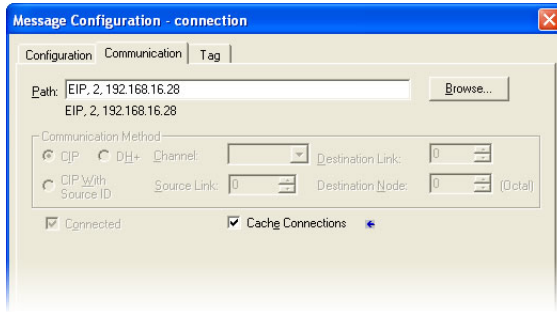

Figure 107: Setting the Communication Path
- d) "Communication" tab settings (refer to Figure 107):